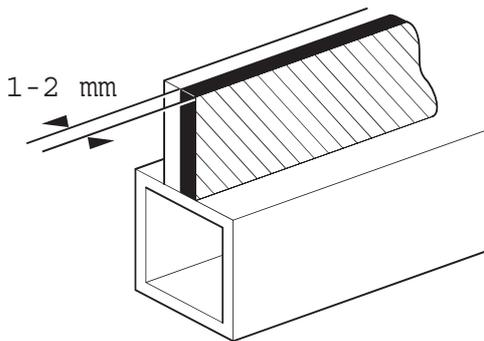

Fig 8.
- 5 If necessary, trim off the remaining old sealant to leave approximately 1 to 2 mm on the upright face of the cab frame aperture. → Fig 8. (□ B-30).